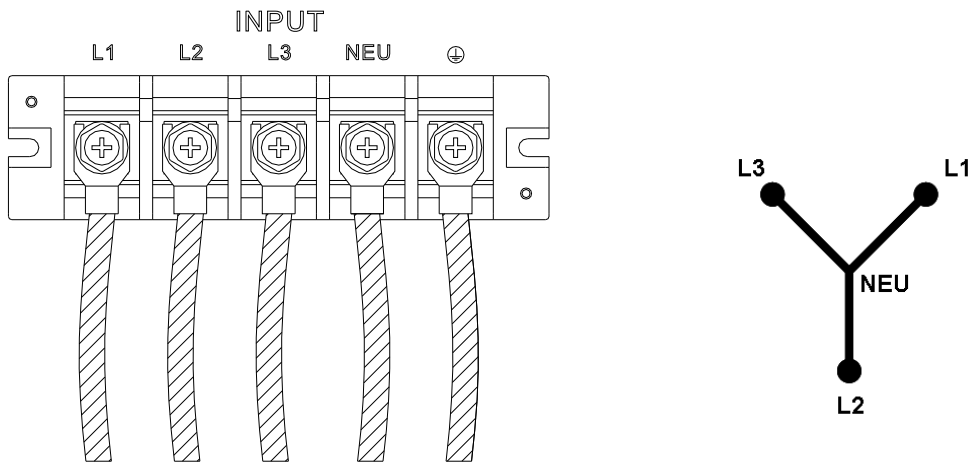

Figure 2-2 3-Phase Power Input Connection (Y Connection) 190-250 V
See Figure 2-2 and perform the steps below accordingly:
2. Connect the wire to the AC Source terminal blocks (see Figure 2-2.)